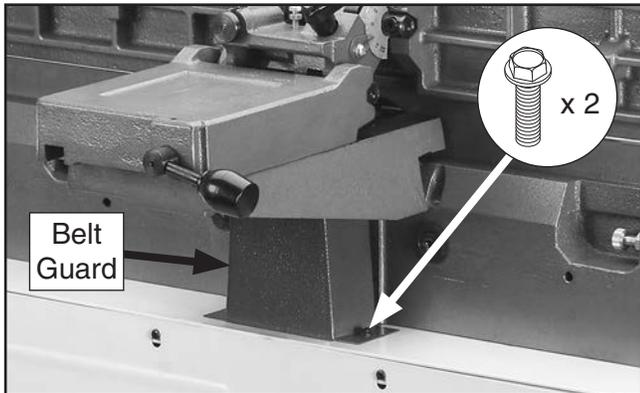

Figure 31. Belt guard installed.
18. Install belt guard with (2) M6-1 x 12 flange bolts, as shown in **Figure 31**.